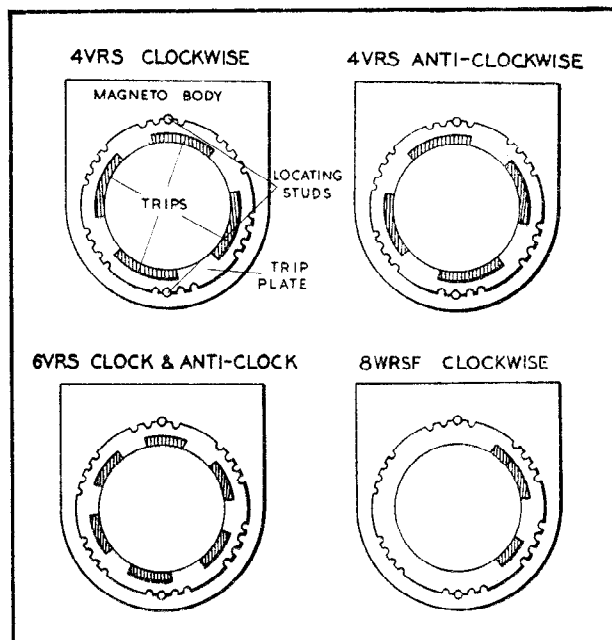

Fig. 10.
- (iv) Screw the two locating studs into diametrically opposite holes in the magneto body, see Fig. 10.
- (v) Position the trip plate to the magneto body so that the slots in the circumference of the trip plate fit over the studs, and the reference marks made when dismantling coincide. If reference marks were not made or are no longer discernible, position the trip plate as shown in Fig. 10.